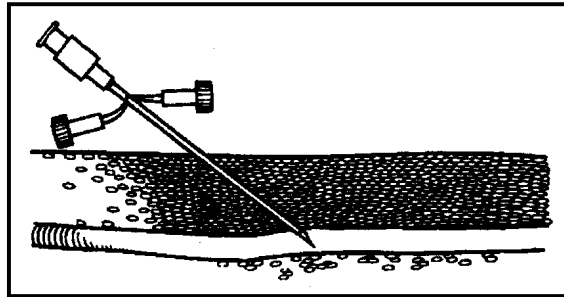

Figure 3-26
- (c) While occluding the external jugular vein distally and applying tension on the skin over the vein in a caudoventral direction with one hand, hold the needle with the other hand and identify and pierce the external jugular vein with the needle. You should see blood coming out of the needle to verify proper venipuncture. (See Figure 3-26.)